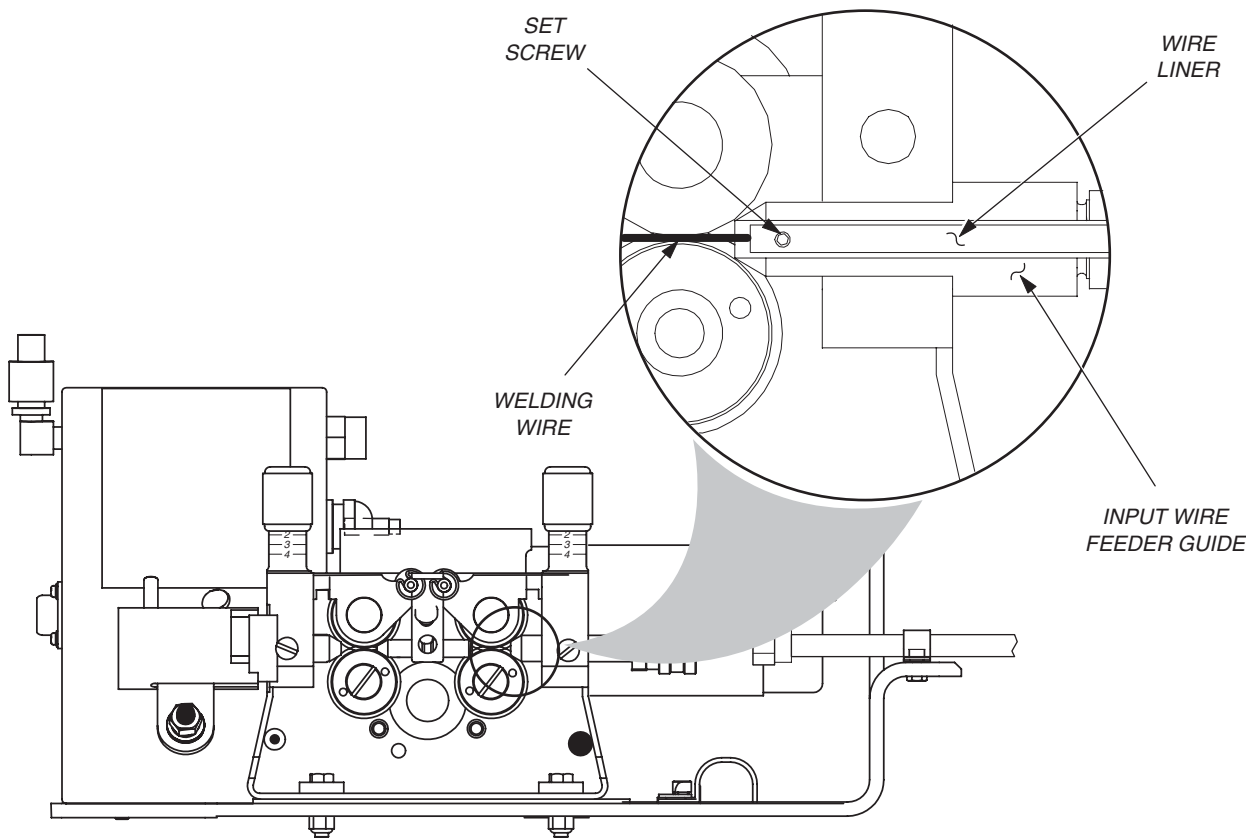

Figure 12 Install Welding Wire and Liner
8. Push the wire liner into the input wire feeder guide past the set screw (see Figure 12), but not out of the input wire feeder guide.